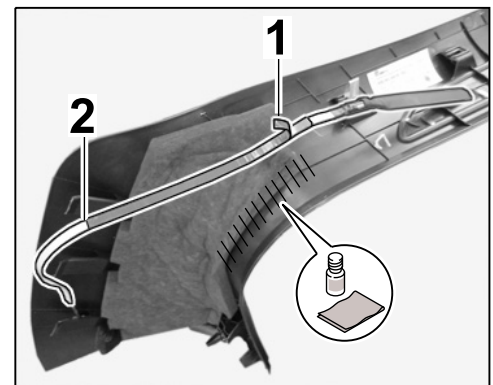

Figure 24
- 3.3.3 Clean the bonding areas for the flat conductor path ⇒ *Figure 24-shaded area-* on the underside of the inner door sill trim using isopropanol to remove any grease and dust.